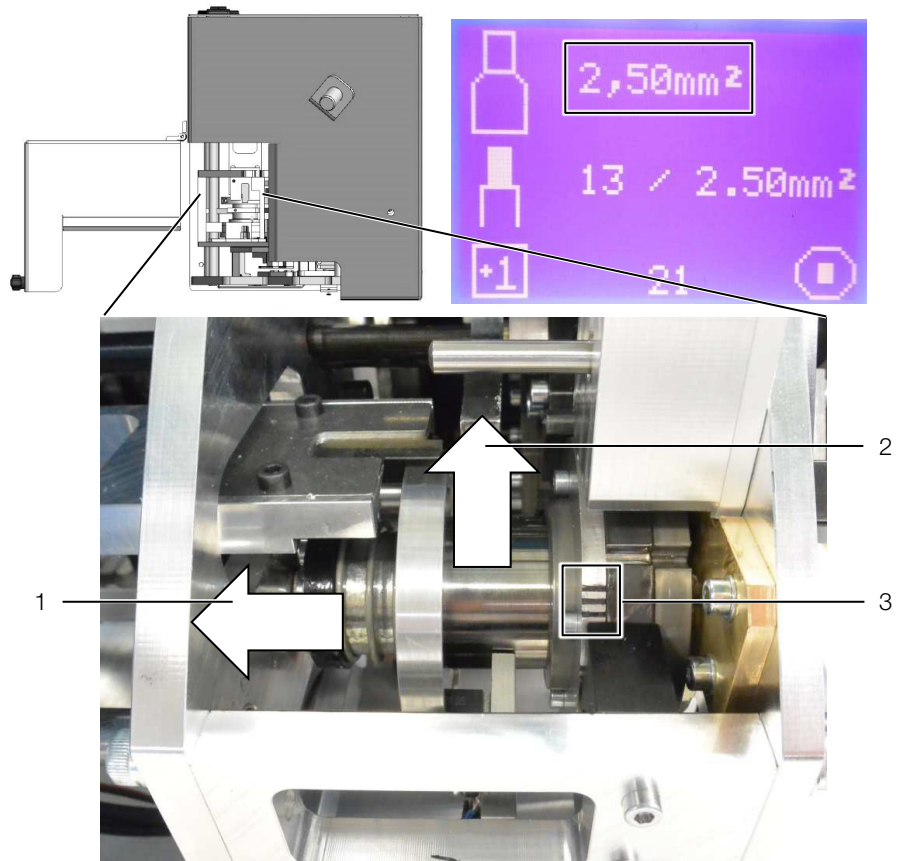

Fig. 8: Setting the die size
- Press the drum backwards (see fig. 8, item 1) and turn (see fig. 8, item 2) to the desired die size.
The current nest is displayed with the bars (see fig. 8, item 3).